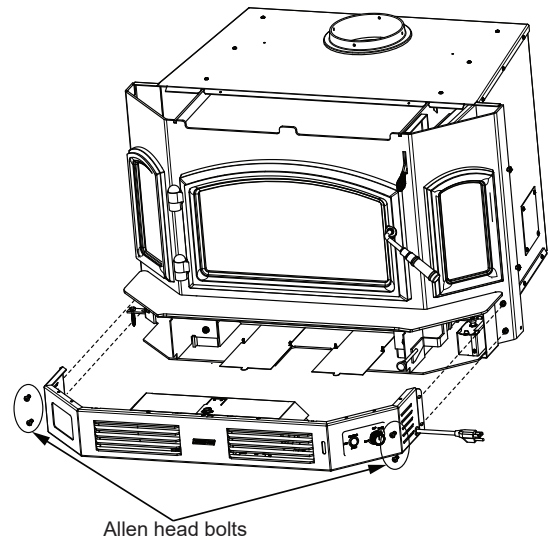

Figure 27.5
1. Using a 5-32 Allen wrench remove blower assembly housing as shown below in **Figure 27.5**.